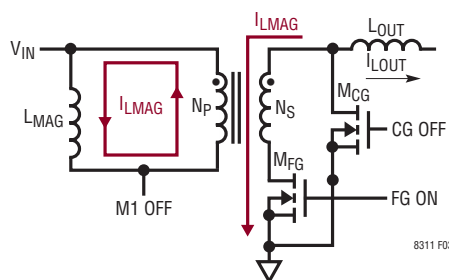

Figure 3. With FG On, I_{LMAG} Is Conducted Through M_{FG} to Ground on the Secondary Side When M1 Turns Off
the primary winding voltage gets smaller too, effectively moving SWP towards V_{IN} . Since M_{FG} is still on, and M_{CG} 's body diode is on, the secondary winding voltage gets clamped at about a diode voltage. Through transformer action, SWP gets clamped to approximately V_{IN} . I_{LMAG} flows in the secondary windings, as shown in Figure 3, flowing from the drain to source of M_{FG} , to ground. M_{CG} 's body diode sources I_{LOUT} and I_{LMAG} .
2. **Resonant Reset Case (blue waveform):** Resonant reset ultimately completes when SWP's quasi-sinusoidal waveform returns to V_{IN} , by which point I_{LMAG} is reset to a negative value. FSW is eventually clamped by M_{FG} 's body diode, and conducts I_{LMAG} , through the secondary windings, towards the output inductor (similar to Figure 3, but with I_{LMAG} direction reversed on primary and secondary sides). With a diode voltage imposed across the secondary windings, transformer action